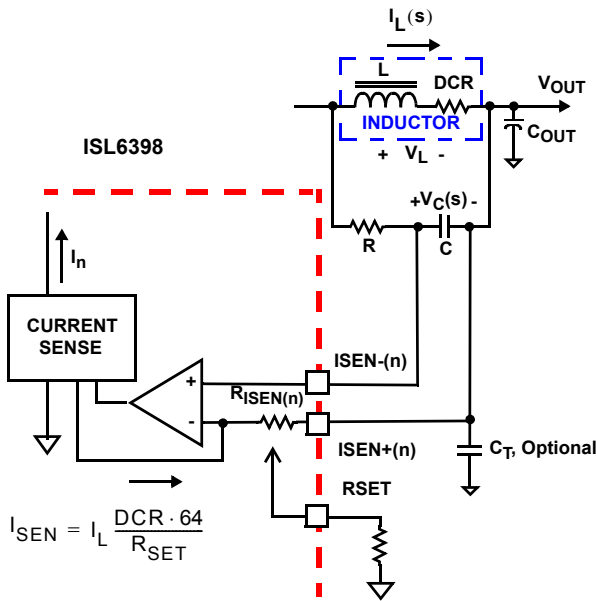

FIGURE 4. DCR SENSING CONFIGURATION
The internal circuitry, shown in Figures 4 and 5, represents one channel of the VR output, respectively. The ISEN± circuitry is repeated for each channel, but may not be active depending on the status of the PWM[6:2] pins, as described in "PWM Operation" on page 17. The input bias current of the current sensing amplifier is typically 25nA; less than 8kΩ input impedance is preferred to minimized the offset error, i.e., a larger C value as needed.
An inductor's winding is characteristic of a distributed resistance, as measured by the Direct Current Resistance (DCR) parameter. Consider the inductor DCR as a separate lumped quantity, as shown in Figure 4. The channel current I_L , flowing through the inductor, will also pass through the DCR. Equation 4 shows the S-domain equivalent voltage across the inductor V_L .
A simple R-C network across the inductor extracts the DCR voltage, as shown in Figure 4.
The current sense circuitry operates in a very similar manner for negative current feedback, where inductor current is flowing from the output of the regulator to the PHASE node, opposite of flow pictured in Figures 4 and 5. However, the range of proper operation with negative current sensing has a limitation. The worst-case peak-to-peak inductor ripple current should be kept less than 80% of the OCP trip point ($\sim 80\mu A$). Care should be taken to avoid operation with negative current feedback exceeding this threshold, as this may lead to momentary loss of current balance between phases and disruption of normal circuit operation. Note that the negative current can especially affect coupled inductor designs, where the effective inductance is the leakage between the two channels, much lower than the specified mutual inductance (LM) and self inductance (L). To limit the impact, a higher R_{SET} value ($1.5x$ to $2x$) is often used to reduce the effective negative current seen by the controller in coupled inductor designs.